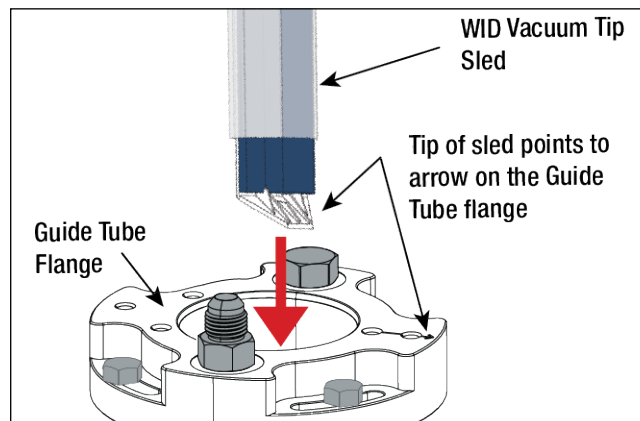

Figure 8. Installing WID
2. At the Guide Tube flange uncoil the WID tubing assembly while pushing the WID down into the Guide Tube flange (see Figure 8). Continue uncoiling/pushing the tubing assembly down until the WID flange seats against the Guide Tube flange. Since the Guide Tube is locked in the desired direction, the WID tubing's rectangular end will follow the desired path to the middle of the tank's low end.